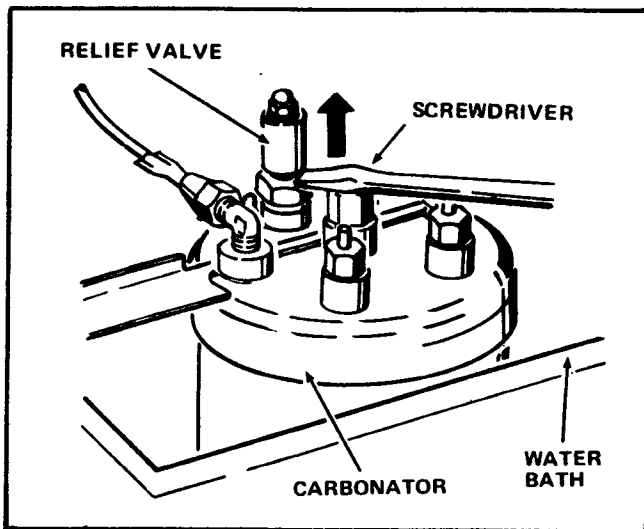

Figure 2-7. Carbonator Relief Valve
I. Using the blade of a screwdriver, lift the Relief Valve located on top of the Carbonator. See Figure 2-7.